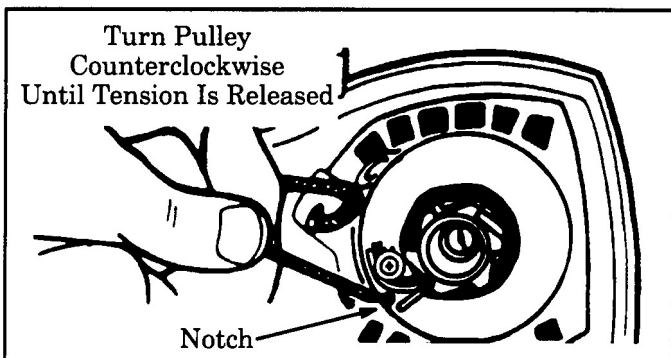

Figure 39
5. If the starter rope is not broken, release the spring tension by pulling about 10 inches of rope from the pulley and catch the rope in the notch as shown in Figure 39.